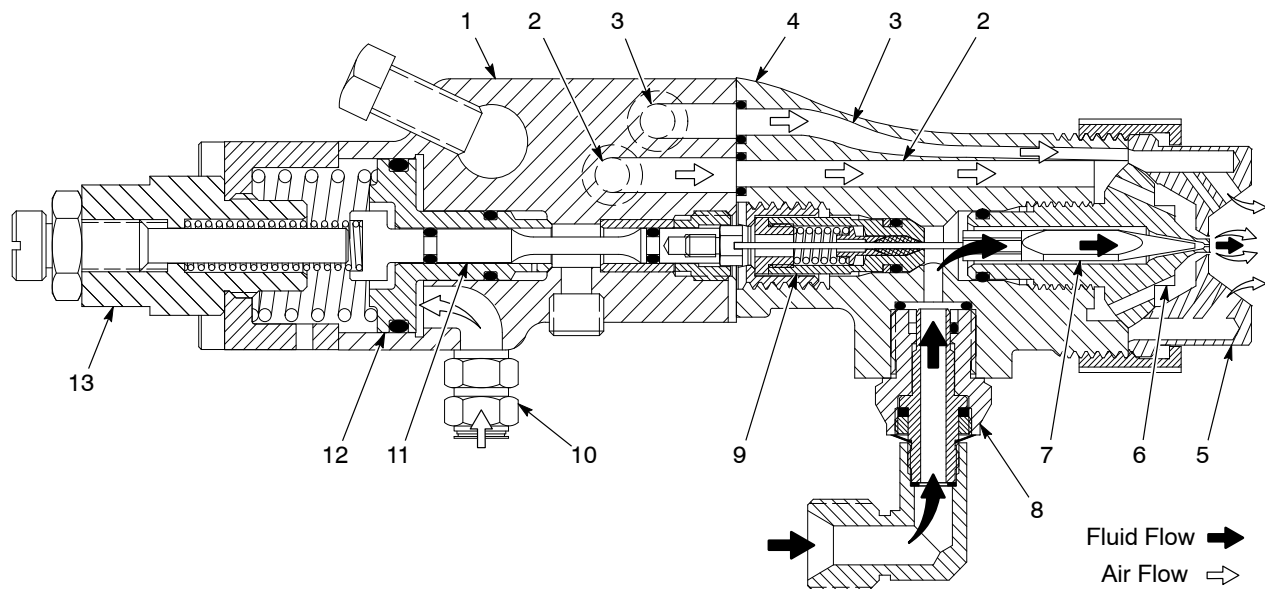

Figure 2-2 Prism Spray Gun Section View
See Figure 2-2. Fluid enters the spray gun through the swivel fitting (8) in the extension (4) and flows to the fluid tip (6). The needle valve (7) controls fluid flow through the fluid tip. The packing cartridge (9) prevents fluid from flowing past it into the spray gun body (1). The adjuster housing (13) controls needle travel allowing adjustments to be made in fluid flow rates at the spray gun. Air enters the spray gun body at three fittings: